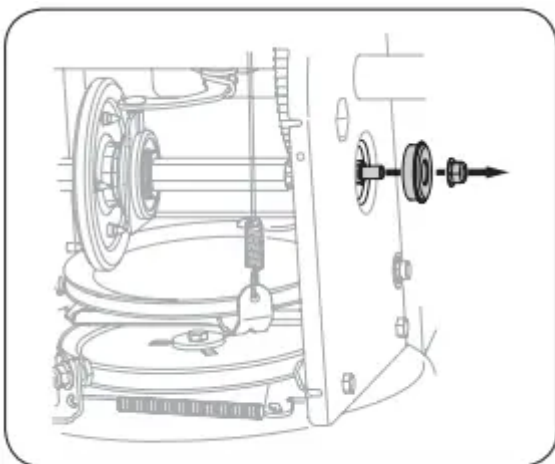

Figure 73
- Carefully remove the hex nut and washer which secures the hex shaft to the snow blower frame and lightly tap the shaft's end to dislodge the ball bearing from the right side of the frame. See Figure 73. NOTE: Be careful not to damage the threads on the shaft.